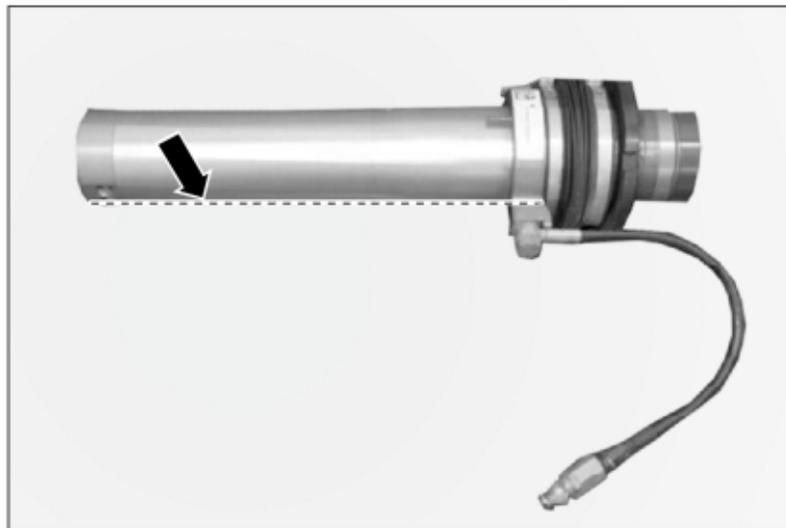

Figure 3
1. – Carefully mount the lift unit on the housing of the new shock absorber. Push the lift unit up to the collar on the damper housing (end stop). Align the connection of the lift unit with the holes in the bottom of the housing ⇒ **Figure 3 -Arrow and line-**. Do not use force during assembly! Never hit the upper edge of the lift unit (seal) with a hammer.